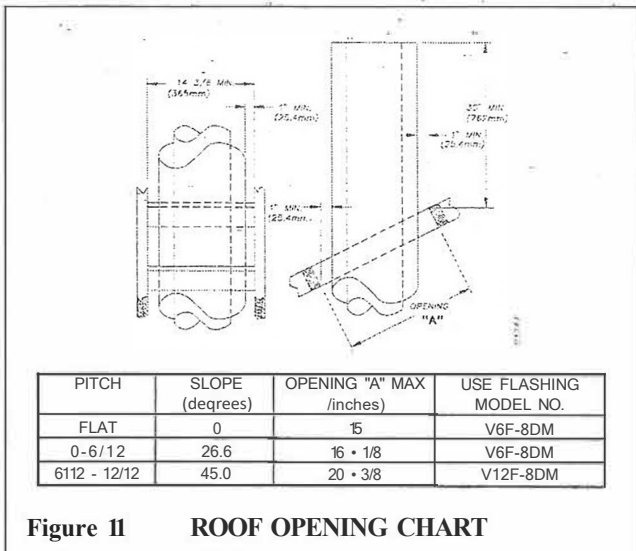

Figure 11 ROOF OPENING CHART
STEP 3: Use the roof opening chart (figure 11) to determine the correct opening length and flashing required.